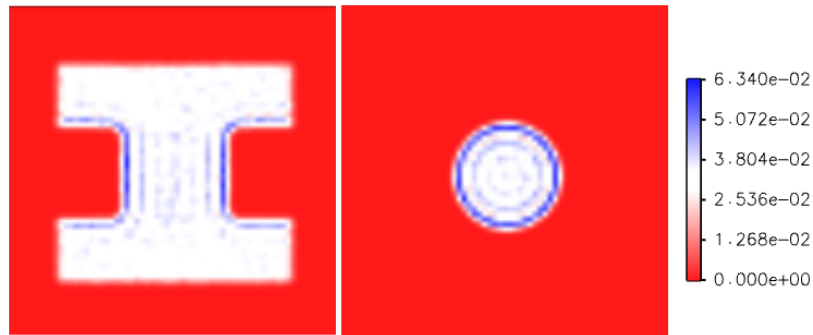

Figure 5: Water density as determined by the VMD volmap plugin.
- 4 In the Graphical Representations window, set the **Render Quality** to **Medium**, and move the **slice offset** to 0.50. Rotate your molecule, you should be able to see something similar to what is shown in Fig. 5. Turn off the `cntwi.psf` molecule (double click on the D close to the name of the molecule in the VMD Main window) for better visualization. Do you notice a difference between the water density computed for this simulation in which an electric field has been applied, and the water density obtained for our previous simulation in equilibrium?